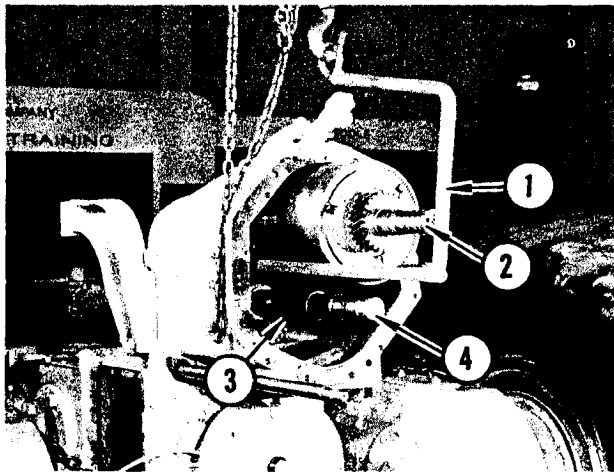

FIGURE 46. UPPER SHAFT ASSEMBLY
Refer to Figure 46. Install lifting tool (1) onto chain hoist and place prongs of tool under upper shaft assembly (2). Take up on chain hoist. Move front end of upper shaft back and forth and at same time pull forward until assembly is free of bearing bore in housing. Remove assembly from housing. Remove long spacer (3) from lower shaft.